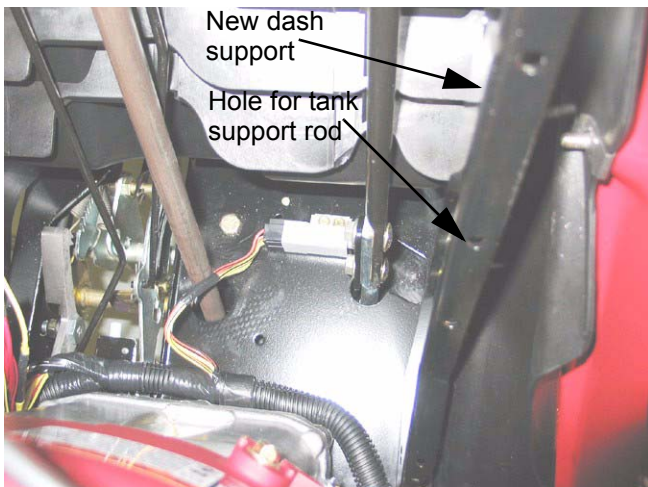

Figure 4.6
- 4.6. The previous dash support was made of a single tube. The new one consists of a pair of brackets. See Figure 4.6.